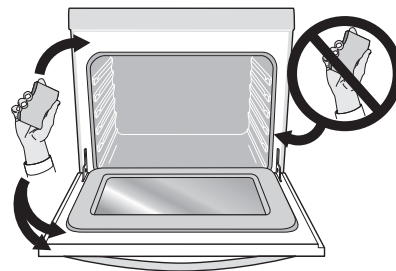

Figure 39: Oven door area to clean and not clean (gasket).
- Clean any soil from the oven frame, the door liner outside the oven door gasket and the small area at the front center of the oven bottom (See Figure 39). These areas heat sufficiently to burn soil on. Clean using soap and water prior to starting Self Clean.
- Do not clean the oven door gasket (See Figure 39). The woven material of the oven door gasket is essential for a good seal. Care should be taken not to rub, damage or remove the gasket. Do not use any cleaning materials on the oven door gasket. Doing so could cause damage to the door gasket.